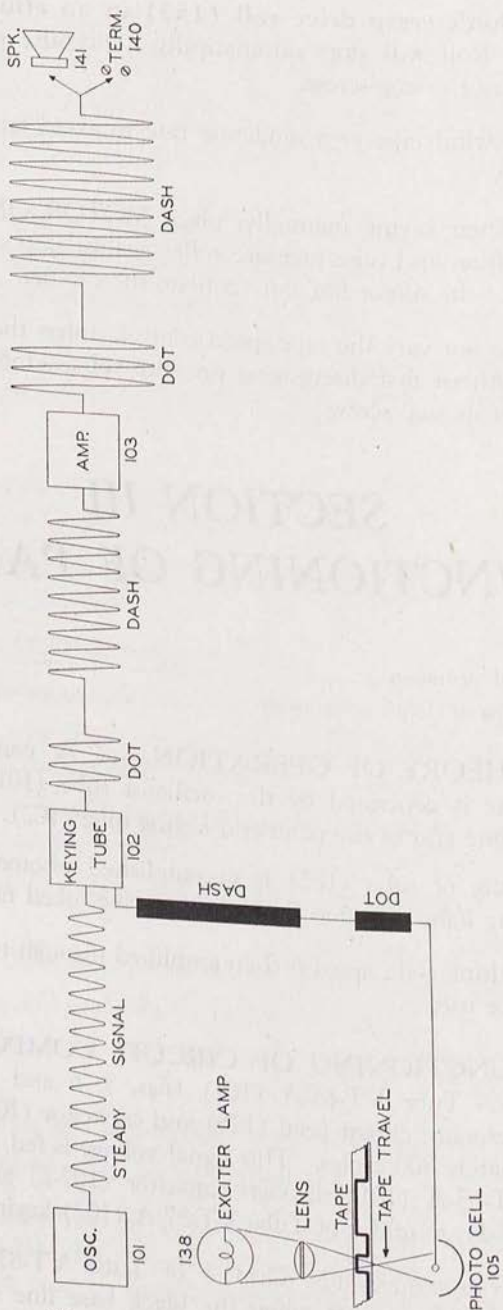

Figure 5.—Functional block diagram.
*a. Oscillator.*—Tube VT-65-A (101) (figs. 5, 6 and 18), with its associated resonant circuit [coil (128) and capacitor (106)] oscillates at approximately 800 cycles. This signal voltage is fed from the grid of Tube VT-65-A (101) through capacitor (107-2) and stabilizing resistor (117-1), to grid 1 of Tube VT-87-A (102) keying tube.
*b. Mixer-amplifier.*—(1) Grid 3 of Tube VT-87-A (102) is normally biased to cut off when the black base line shuts off the light from the aperture.